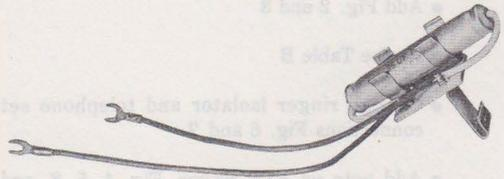

Fig. 1—D-180327 Kit of Parts
4.03 The electromagnet associated with 10-cent operation is connected in series with the line. In order to minimize the effect of the electromagnet on transmission, a 452A or 452B 4-uf capacitor is connected in parallel with it. In areas of low-frequency inductive interference it may be necessary to increase the size of this capacitor to keep the noise pickup within acceptable limits. A D-180327 Kit of Parts (Fig. 1) is available for this purpose and is intended for use in all 200-type coin collectors using a 425- or 4010-type network. It replaces the 452A or 452B capacitor.